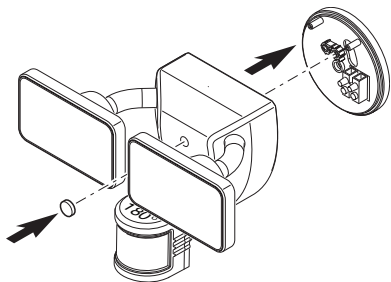

Figure 5
3. Tighten the mounting bolt securely being careful not to overtighten (see Figure 5).
4. Push the rubber plug firmly into the mounting bolt hole on the light fixture (see Figure 5).